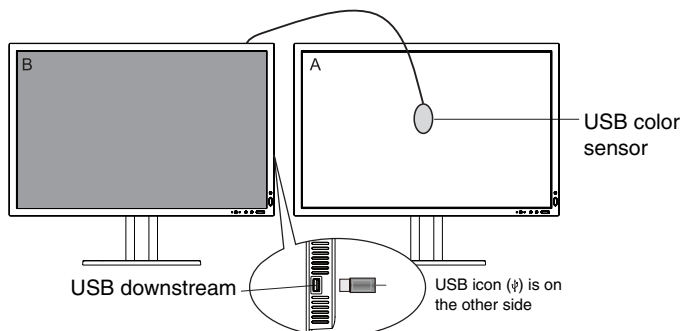
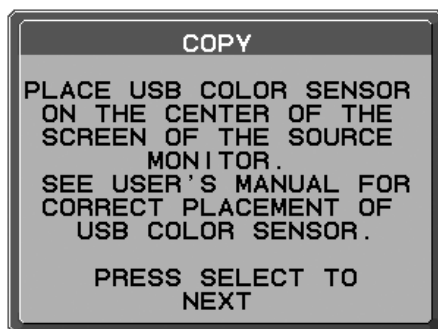

Figure C.1
Figure C.5
3. Plug-in the USB color sensor to the side (or bottom when Portrait orientation) USB downstream port (**Figure C.1**).
8. The procedure will ask for the USB color sensor to be placed on the center of the display panel (**Figure C.5**). Tilt the display panel approximately 5° backward and place the USB color sensor in the center of the display panel (**Figure C.1**).